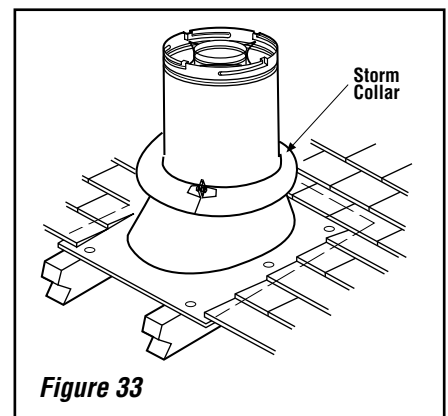

Figure 33
J. Install the storm collar - Install the storm collar, supplied with the flashing, over the vent/flashing joint. See **Figure 33**. Loosen the storm collar screw. Slide collar down until it meets the top of the flashing. Tighten the adjusting screw. Apply non-combustible caulking or mastic around the circumference of the joint to provide a water tight seal.